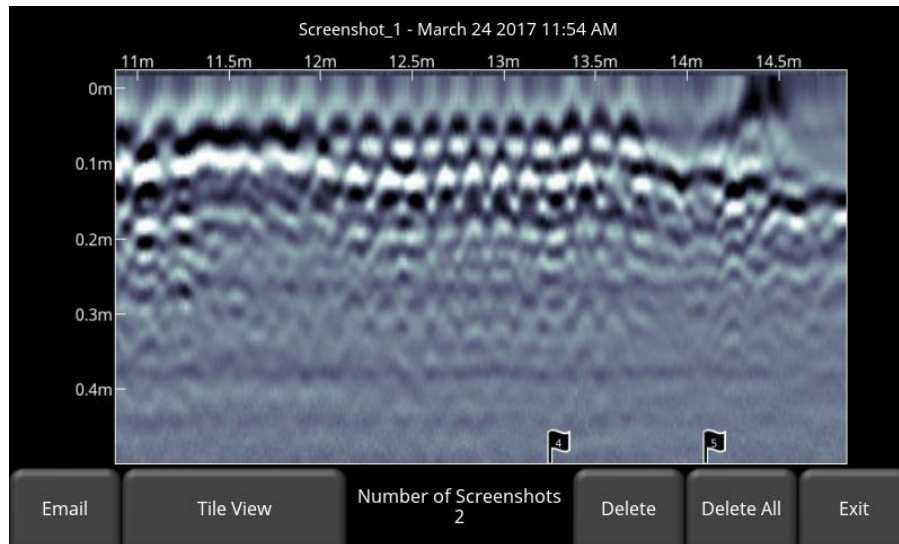

Figure 5-44: Expanded view of screenshot
- **Expand** – Press this button to show the selected screenshot as a full screen image (Figure 5-44). On the subsequent screen, press **Tile View** to return to the screen displaying four screenshots per page.